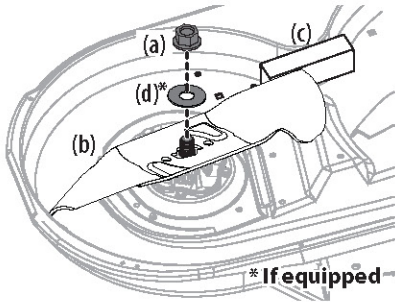

Figure 47
2. Use a 15/16" wrench to hold the hex nut on top of the spindle assembly when loosening the hex nut (a) and washer (d)* securing the blade (b). A block of wood (c) may be placed between the deck housing and the cutting edge of the blade (b) to help in breaking loose the hex nut (a) and washer (d)* securing the blade. See Figure 47.
2. When re-installing blades, be sure of the following (see Figure 47 on page 32):